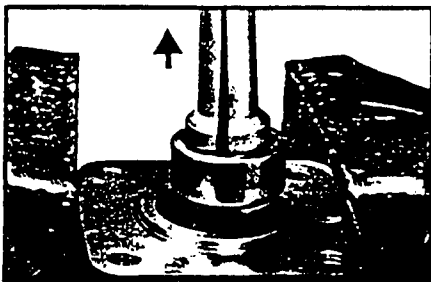

Figure 28
22. Invert housing (15) in the vise, clamping on the mounting flange. Insert a puller for a 1.00 inch (25.4mm) diameter bearing, through outer bearing (19) from the flange end of the housing, expand puller and remove and discard bearing. SEE FIGURE 28.